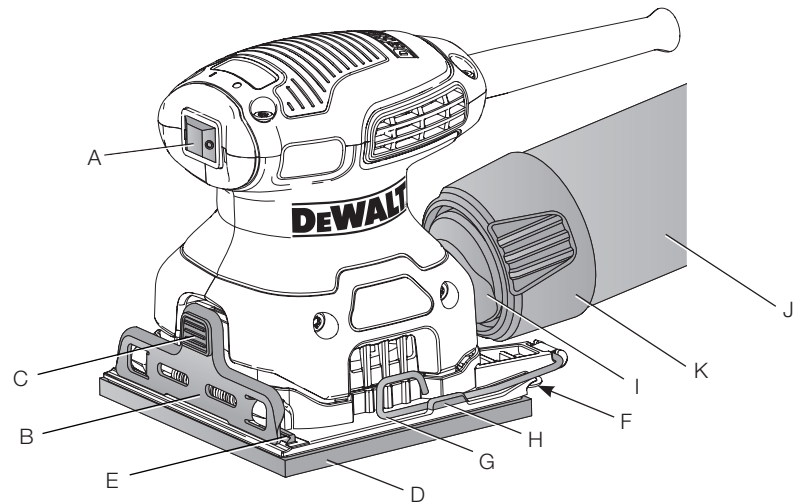

FIG. 2
- Soften the stiff sandpaper by pulling it over the 90° edge of a table or other straight edge, as shown in Figure 2. Concentrate on softening the edges to be clamped.